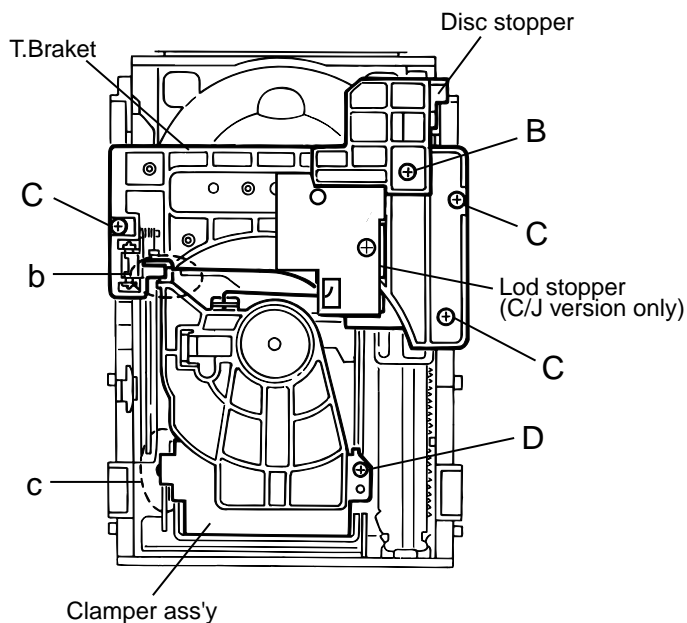

Fig.3
4. Remove the screw B retaining the disc stopper (See Fig.3).
5. Remove the three screws C retaining the T.bracket (See Fig.3).
7. Remove the screw D retaining the clamber assembly (See Fig.3).